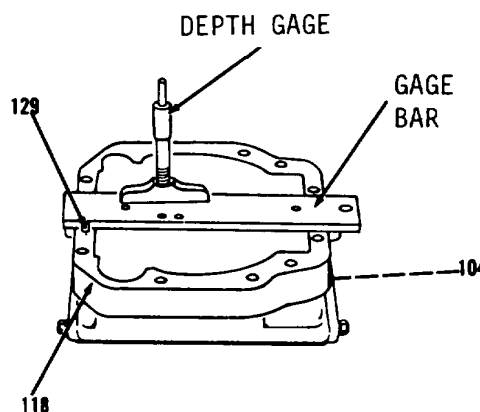

Figure 10-53.
21. Position gage bar and depth gage on body (118) with the edge against dowel (129, Figure 10-53). Install depth gage in one of the holes in the gage bar that is directly over the deepest angle of stop angle bar. The gage bar must be parallel with the centerline of two bearings (104).